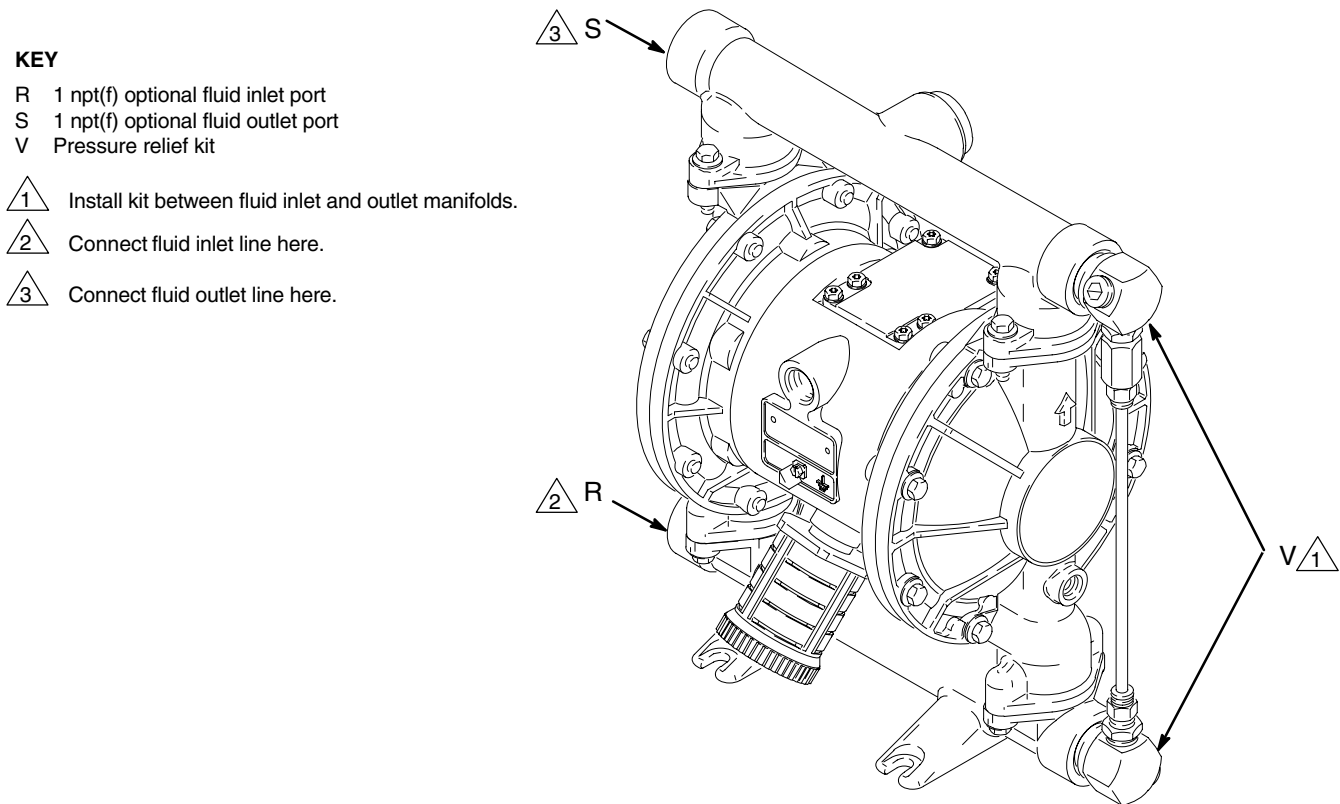

Fig. 7
Pressure Relief Kit 235409 (V) is available for Aluminum Pumps, to prevent overpressurization and rupture of the pump or hose. See Fig. 7. The kit includes instructions.